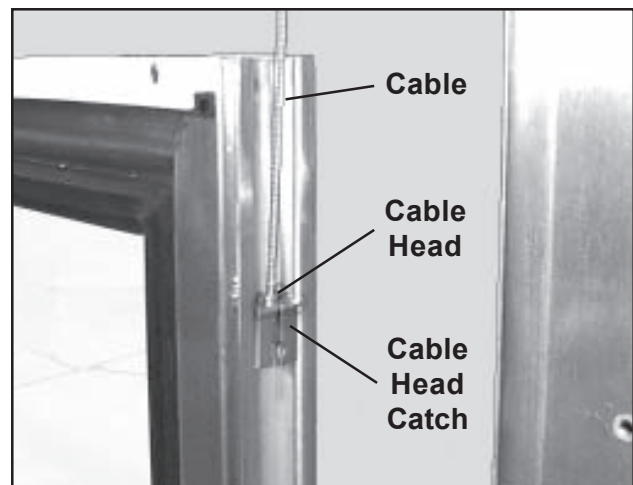

Figure 82. Cable Connected to Door
17. Grasp the right cable firmly, pull it down, and disengage the cable head from the cable head catch on the side of the door (Figure 82). **Note:** Keep a firm hold on the cable, and gently allow it to rise while the counterweight inside the column slowly descends. Do not allow the counterweight to fall freely.
10. Grasp the right cable firmly, pull it down, and disengage the cable head from the cable head catch on the side of the door (Figure 82). **Note:** Keep a firm hold on the cable, and gently allow it to rise while the counterweight inside the column slowly descends. Do not allow the counterweight to fall freely.
12. Grasp the right cable firmly, pull it down, and disengage the cable head from the cable head catch on the side of the door (Figure 82). **Note:** Keep a firm hold on the cable, and gently allow it to rise while the counterweight inside the column slowly descends. Do not allow the counterweight to fall freely.